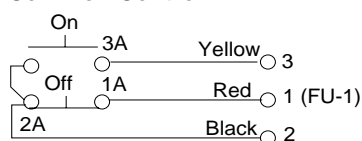

Figure 1 Push Button Kit Mounted
6. Press push button unit into place on contactor or starter (see Figure 1).